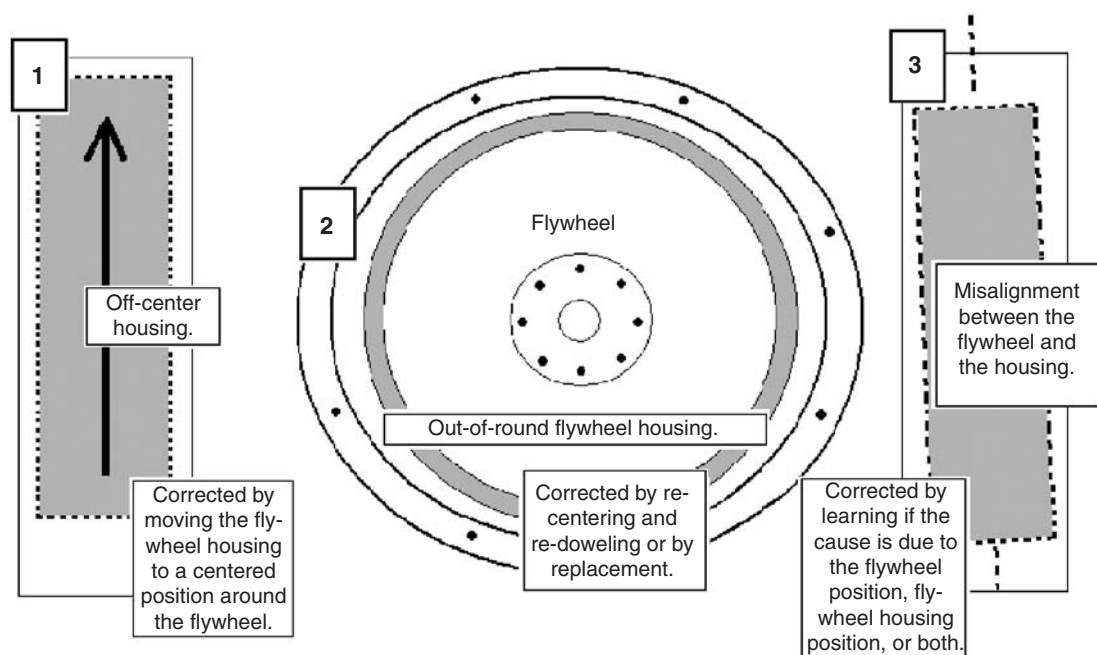

Fig. 11-6. Flywheel housing and possible problems.
1. Check to see if the starter is still engaged in the flywheel (it should not be), and that the flywheel is tightly mounted to the crankshaft (it should be). See also Figure 11-6.